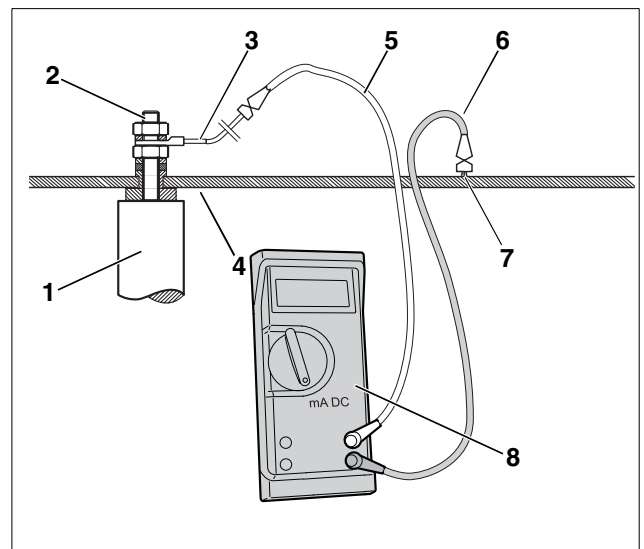

Fig. 17 Testing the anode with an multi-meter
- Remove one side of the grounding lead (Fig. 17, **Item. 3**) on the tank.
- Set multi-meter (MM) to DcmA (milli amps)
- Connect black wire (Fig. 17, **Item. 6**) of MM to grounding cable or bolt (Fig. 17, **Item. 7**).
- Connect red cable (Fig. 17, **Item. 5**) of MM to the anode.